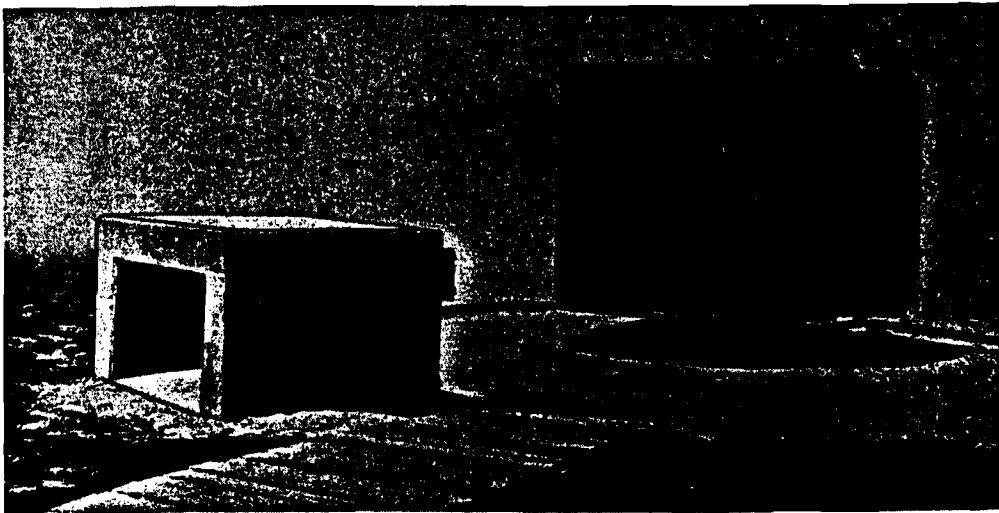

FIGURE 2.—Ammunition pit.
b. Normally the bulk of the ammunition will be stored in the battery emplacement. The ammunition is shipped in wooden boxes with four rounds to a box. One end of each box, held in place by a wing nut screwed on a bolt, is removable. A seal must be removed before the wing nut can be unscrewed. Under the wooden cover is a fiber board which must be pulled out before the four fiber containers, each containing a round of ammunition, can be removed. Each container cap is sealed to the container with tape which must be pulled off before the cap can be taken off. The fuze on each round should be set for delay action as soon as the round is taken from the fiber container. Alert ammunition is stored at each gun emplacement in a concrete boxlike shelter called an ammunition pit. (See fig. 2.) The ammunition in this pit should always be kept ready for immediate use with the fuzes set for delay action. (Firing the ammunition with the fuze set for delay action is recommended since there is a possibility then of obtaining ricochet air bursts which increase the probability of damaging the target.)